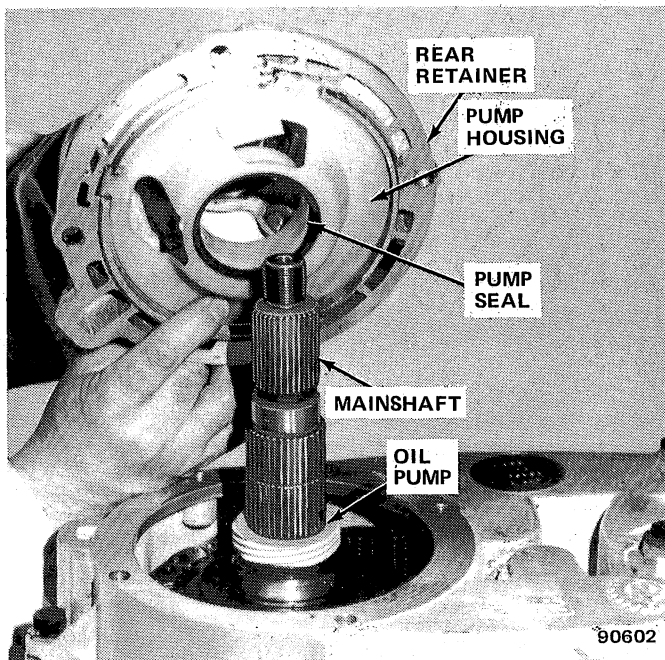

Fig. 2D-8 Rear Retainer Removal/Installation
(20) Remove sprocket carrier, needle bearing upper retainer, thrust washer and mainshaft needle bearings as assembly (fig. 2D-19).
(21) Remove mainshaft (fig. 2D-20).
(22) Remove annulus gear retaining ring and thrust washer (fig. 2D-20).
(23) Remove annulus gear and range fork as assembly. Turn fork counterclockwise to disengage fork lug from range sector and lift assembly out of case (fig. 2D-21).
(24) Remove planetary thrust washer and remove planetary assembly (fig. 2D-22).